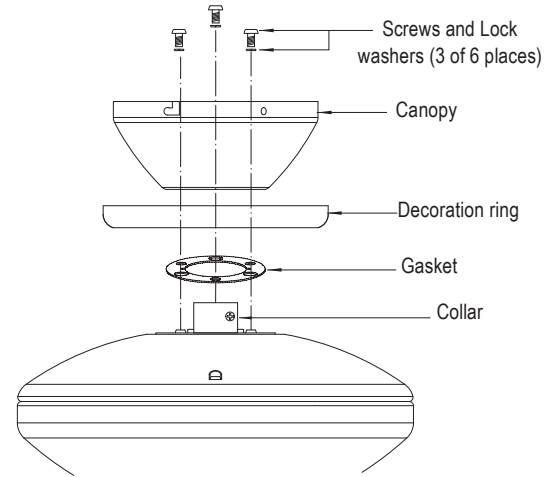

Fig. 8
Step 3. Remove three of the six screws and lock washers (every other one) from the collar of top motor (Fig. 8)
Step 4. Place the ceiling canopy with decoration ring and the gasket over the collar at the top of the motor. Align the mounting holes with the holes in the motor and fasten using the screws and lock washers provided. (Fig. 8)